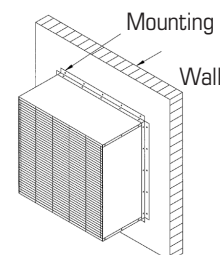

Figure 2 - Mounting Angles
5. Attach (4) mounting angles to the fan housing and wall framing. (Refer to Figure 2).